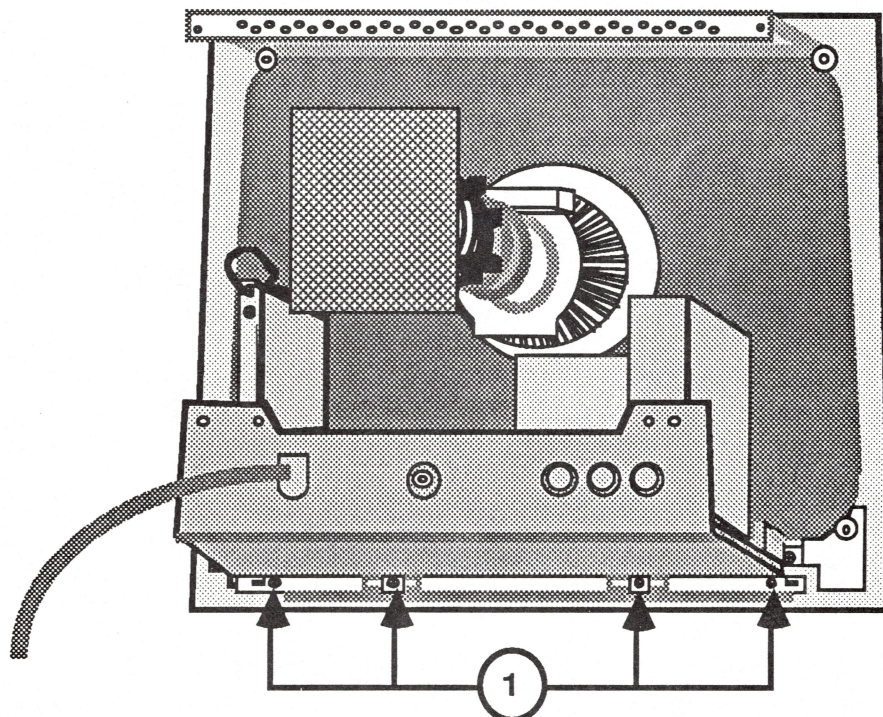

FIGURE 10
7. Remove the four screws (Figure 10, #1) located between the bottom of the metal frame and the plastic case.